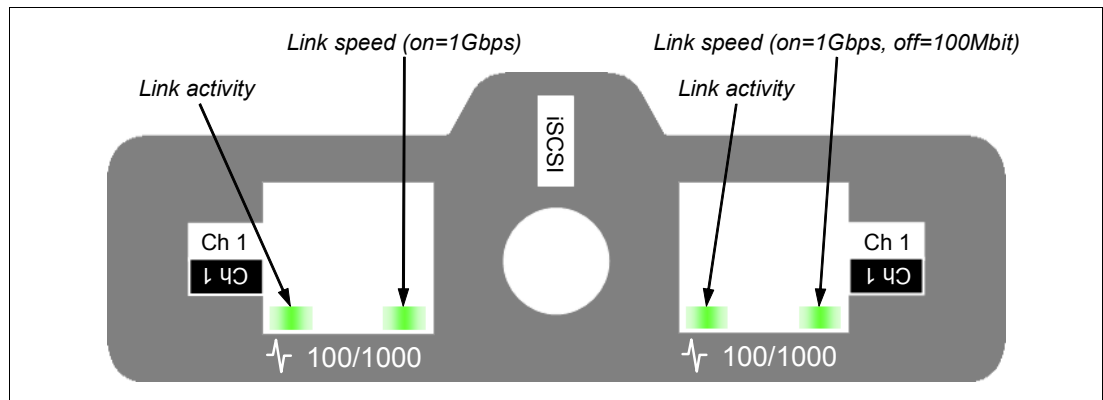

Figure 2-21 1 Gbps iSCSI faceplate design
- ▶ Figure 2-21 describes the LEDs for a 1 Gbps iSCSI HIC.